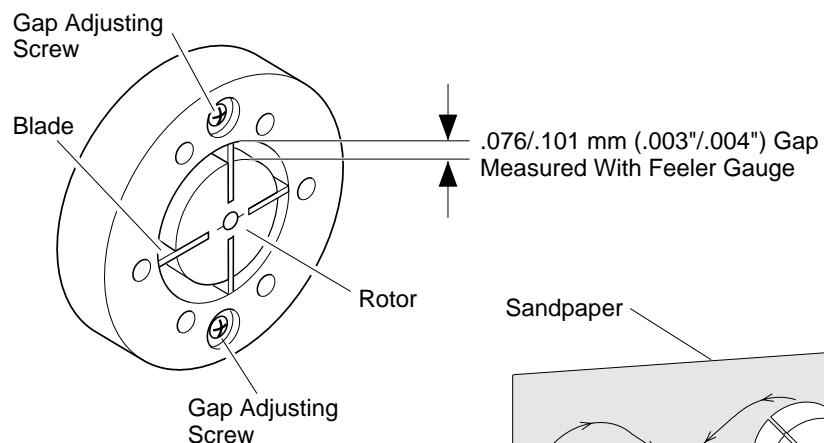

Figure 25 - Gap Adjusting Screw Locations
9. Check gap on rotor. Adjust to .076/.101 mm (.003"/.004") if needed (see Figure 25).